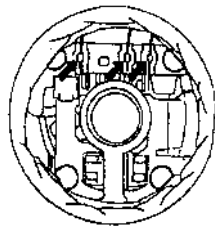

Figure 6.1-12
(9) Use a searing iron of big power (over 180W) to separate the weld from the regulator to the rectifier assembly. Disassemble the stator lead. See Figure 6.1-12.